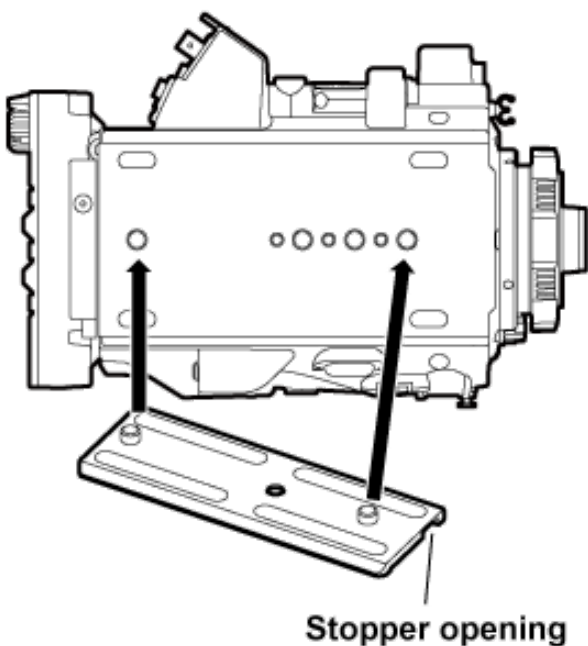

Fig. 3
- 3 **Orient the stopper opening of the slide rail toward the front of the camera, and securely mount to the bottom of the camera with the supplied two screws on the screw holes indicated in the figure. (Fig. 3)**
- 3 **Loosen the two screws and remove the slide rail from the bottom of the camera. (Fig. 3)**